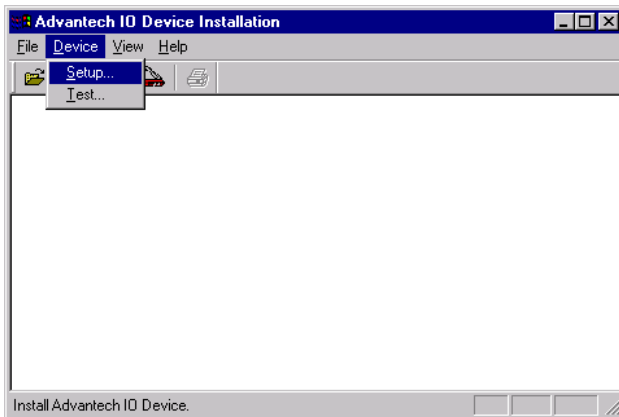
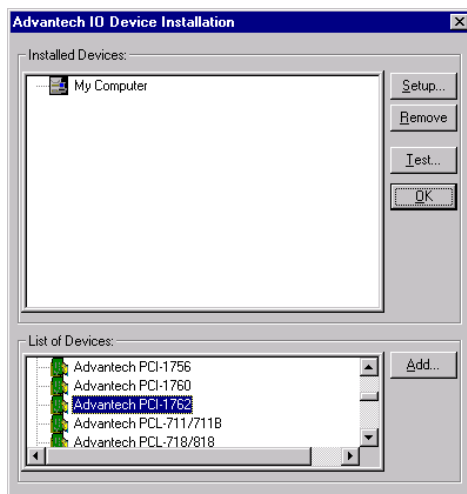

Figure 2-6: *The Advantech Device Installation utility program*
Figure 2-7: The I/O Device Installation dialog box
Step 2: On the *Device Installation* program window, select the Setup menu item on the menu bar, and click the Device command (Fig. 2-6) to bring up the *I/O Device Installation* dialog box (Fig. 2-7). You can then view the device(s) already installed on your system (if any) on the *Installed Devices* list box. Since you haven't installed any device yet, you might see a blank list such as the one on the next page (Fig. 2-7).